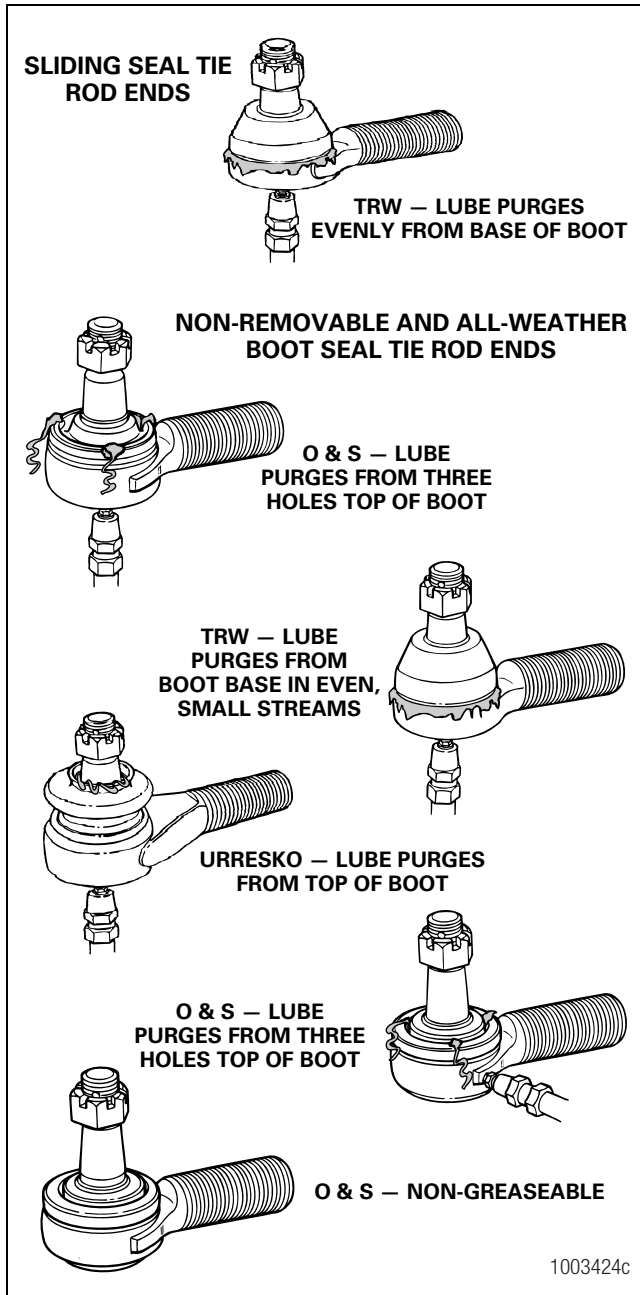

Figure 6.28
5. Apply grease into the grease fitting. Discolored old grease should come out of the purge holes near the boot crimp or bellows area, typically three or more places. Figure 6.28.